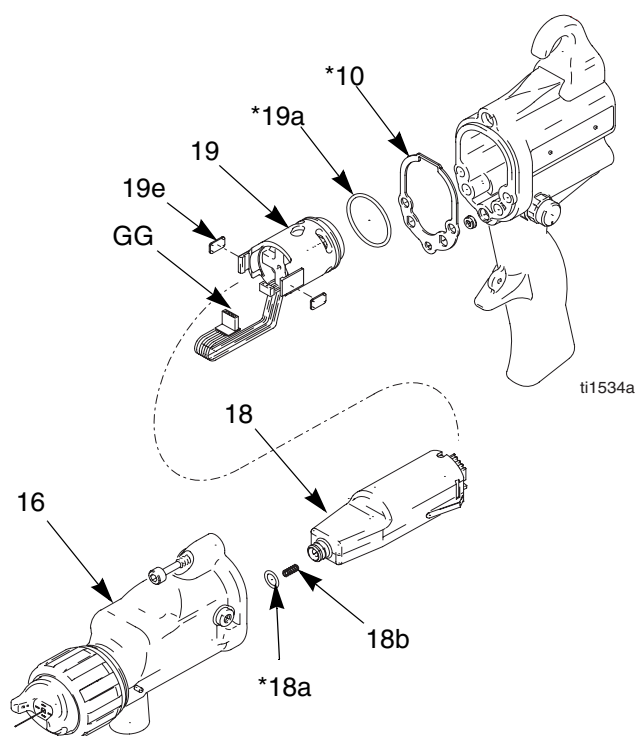

Fig. 15. Power Supply
3. Grasp the power supply (18) with your hand. With a gentle side to side motion, free the power supply/alternator assembly from the gun handle (17), then carefully pull it straight out. See FIG. 15..
4. Disconnect the 3-wire connector (GG) from the power supply. Slide the alternator up and off the power supply. Inspect the power supply and alternator for damage.